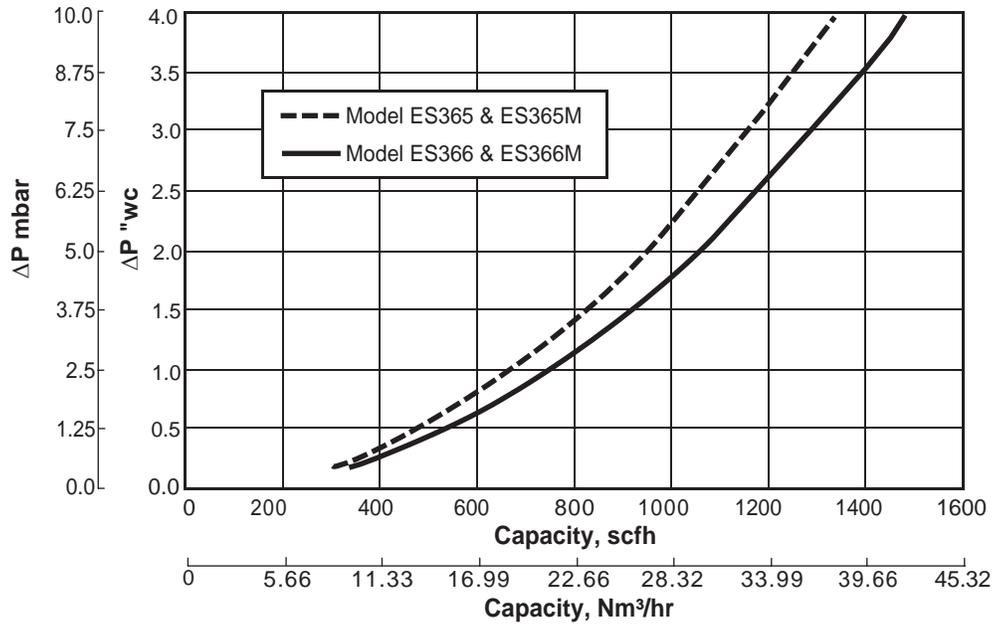

Figure 3.1. Flow vs Pressure Drop, 3/4" & 1" NPT (Rp) Models
- Define the pressure drop through the ratio regulator based on the Flow vs. Pressure Drop curves (Figures 3.1 and 3.2) and conversion factors listed in the “Specifications” section.